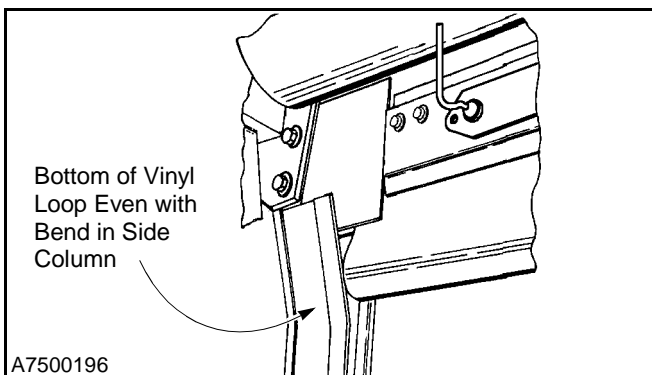

Figure 61
1. With the door in the open position, check the location of the vinyl loop on the bottom bar. It should be in the position shown in Figure 61.